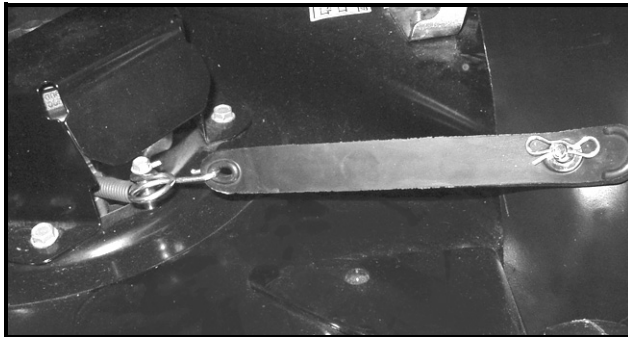

FIGURE 5
5. When installing the elbow discharge chute onto the cutting deck, the spring hook connects to the brake spring attachment post at the right side belt cover. See Figure 5.
12. When installing the elbow discharge chute onto the cutting deck, the spring hook connects to the newly installed post at the right side belt cover. See Figure 5.